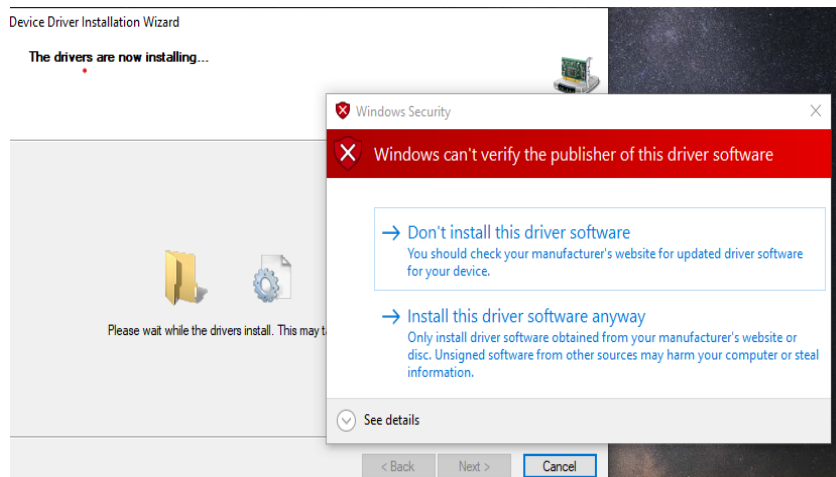

Figure 5.21. Windows Security in Driver Installation
8. If the user receive a Windows Security prompt, select Install this driver software anyway as shown in Figure 5.21.